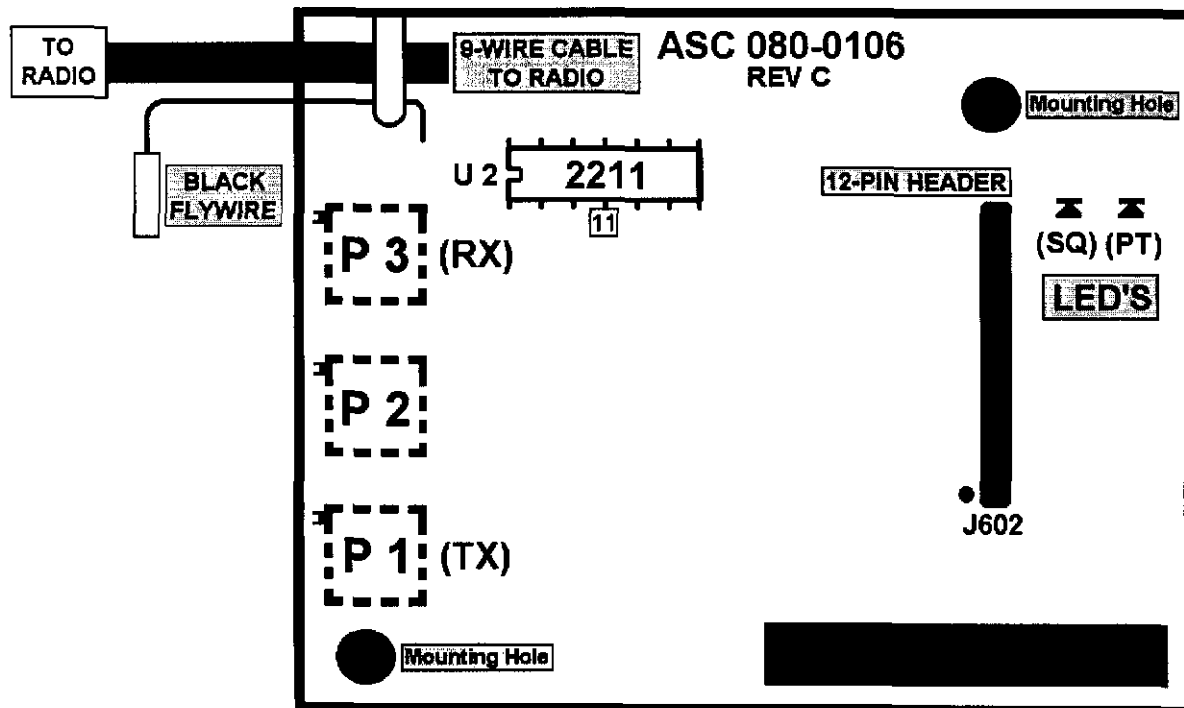

Figure 2
- 4- Make sure that P3 (Receive Potentiometer) is turned up fully clockwise. See Figure 2 below.